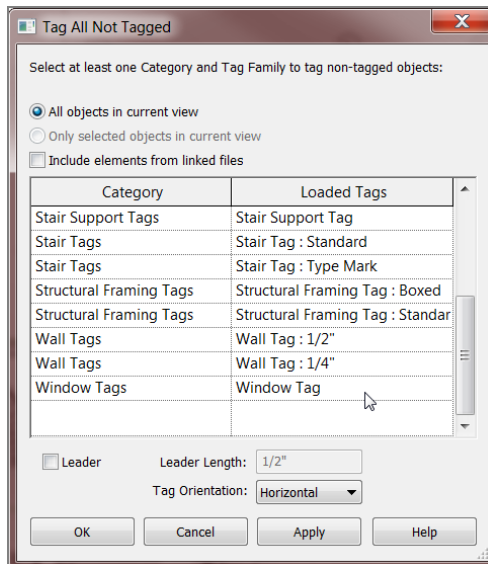

FIGURE 11.69: Selecting door and window tags
6. Make sure the All Objects In Current View radio button is selected (see Figure 11.69).